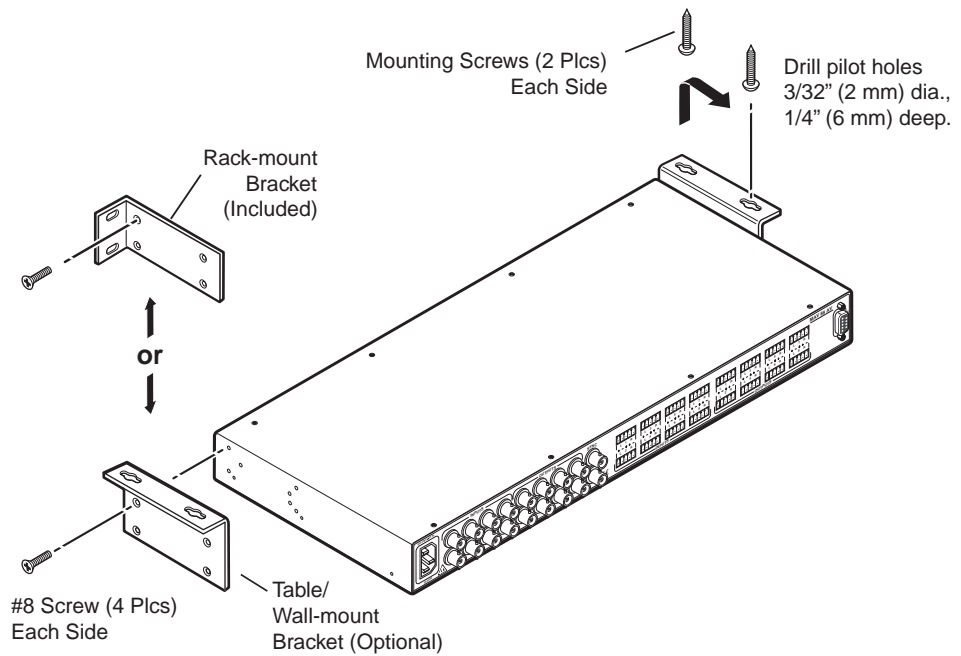

Figure 2-1 — Mounting the switcher
The following Underwriters Laboratories (UL) requirements pertain to the installation of the matrix switcher into a rack (figure 2-1).
2. Attach the rack mount brackets to the switcher with the eight #8 machine screws provided (figure 2-1).
1. Secure the two table/wall mounting brackets to the switcher with the eight machine screws provided in the kit (figure 2-1).